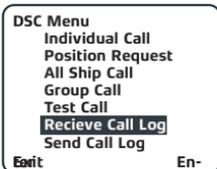

Figure 24
2. Rotate the multi-function knob to select **Receive Call Log** then press **Enter** (fig 24).